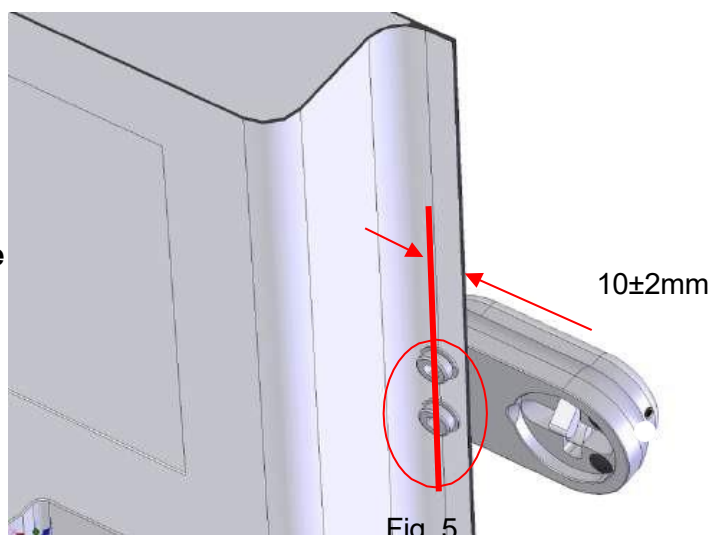

Fig. 5
- The position of the first two holes of 9 mm is approximately 10 ± 2 mm from the vertical edge of the door that opens (see fig. 5). This is a very strong part of the door. The specified tolerance is necessary to ensure that the cylinder heads of the M8 bolts are placed within the edge and never outside.
Before drilling, check that the head of each M8 bolt will remain within the door edge (see fig. 5).